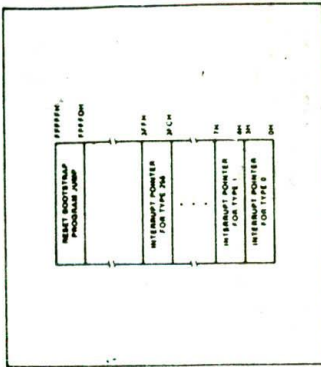

Figure 3b. Reserved Memory Locations
Certain locations in memory are reserved for specific CPU operations (see Figure 3b). Locations from address FFFF(H) through FFFF(H) are reserved for operations following RESET; the CPU will always begin execution at location FFFF(H) where the jump must be executed 0000(H) through 003F(H) are reserved for interrupt operations. Each of the 256 possible interrupt types has its service routine pointed to by a 4 byte pointer element
Processor initialization or start up is accomplished with activation (HIGH) of the RESET pin. The 8086 RESET is required to be HIGH for greater than 4 CLK cycles. The 8086 will terminate operations on the high-going edge of RESET and will remain dormant as long as RESET is HIGH. The low-going transition of RESET triggers an internal reset sequence for approximately 10 CLK cycles. After this interval the 8086 operates normally beginning with the instruction in absolute location FFFFH (see Figure 3b). The details of this operation are specified in the Instruction Set description of the MCS-86 Family User's Manual. The RESET input is internally synchronized to the processor clock. At initialization the HIGH-to-LOW transition of RESET must occur no sooner than 50 μ s after power-up, to allow complete initialization of the 8086. NMI may not be asserted prior to the 2nd CLK cycle following the end of the RESET.
Interrupts result in a transfer of control to a new program location. A 256 element table containing address pointers to the interrupt service program locations resides in absolute locations 0 through 3FFH (see Figure 3b), which are reserved for this purpose. Each element in the table is 4 bytes in size and corresponds to an interrupt "type". An interrupting device supplies an 8-bit type number, during the interrupt acknowledge